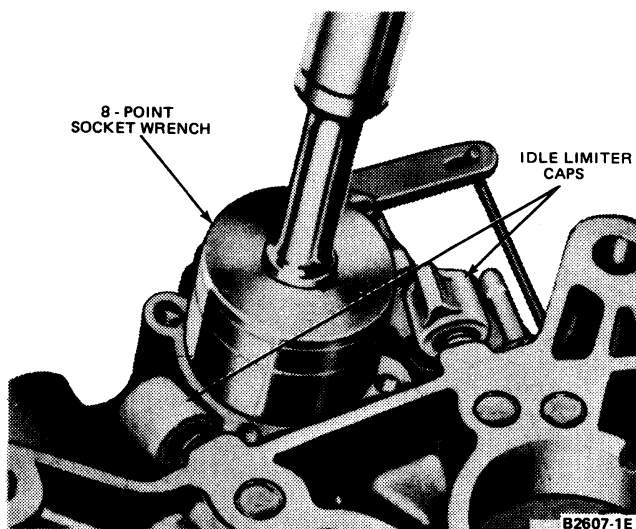

FIG. 30 Removing or Installing Enrichment Valve
7. Invert the main body and remove the enrichment valve cover and the gasket. Remove the enrichment valve with a box wrench or socket wrench (Fig. 30). Remove the enrichment valve gasket. Discard the gasket.
8. Invert the main body. Install the enrichment valve and new gasket with a wrench (Fig. 30). Tighten the valve securely.